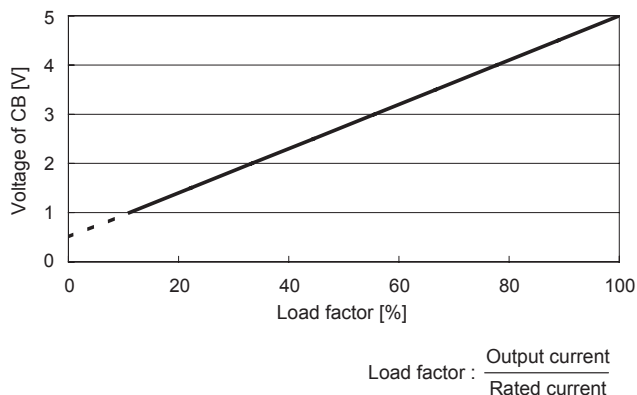

Fig.5.1 Load factor conversion graph
■ Fig.5.1 shows the relationship between the voltage of the terminal CB and the output current.
The output current shown in Fig.5.1 should be used only as a guide.